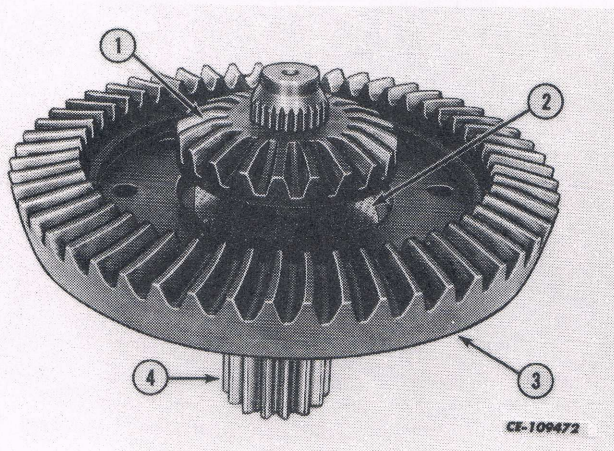

Fig. 16
6. Install a new thrust washer (2) in the center of the ring gear (3) so that the tang of the thrust washer engages the hole in the ring gear. See Fig. 16.
7. Place the planetary drive shaft (4) on a work bench. Assemble the ring gear (3) with thrust washer (2) and differential bevel gear (1) to the drive shaft. See Fig. 16.